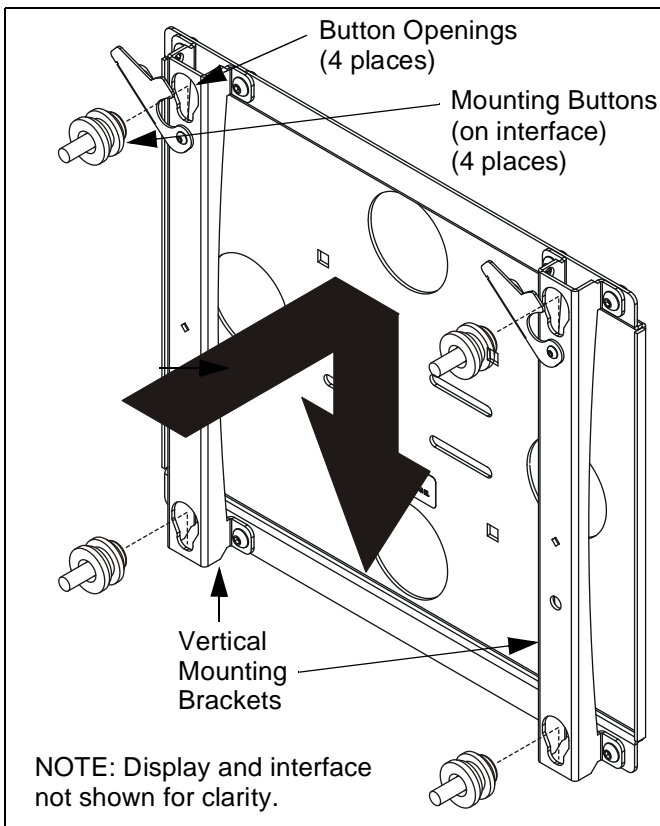

Figure 3: Align and Lower Display
3. Lift and maneuver display so that all four mounting buttons fit into button openings on the vertical mounting brackets. Lower display firmly into place. Ensure each mounting button has fully seated in its button opening (See Figure 3).